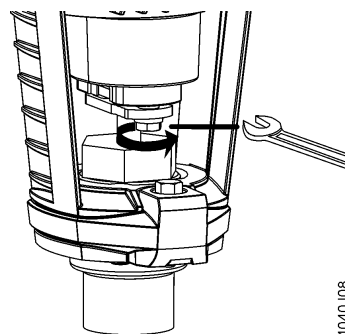

Figure 10.
8. Secure the stem connection plate by tightening the bolt, using a 10 mm wrench (or 4 mm Allen wrench). See Figure 10.